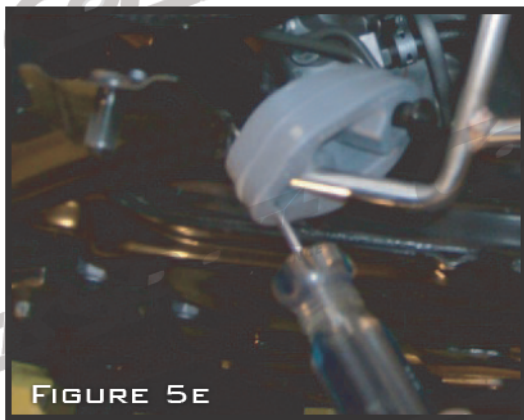

FIGURE 5E
C) THE REAR FLANGE OF THE RACEPIPE USES A SET OF 60MM (FOR 65MM RP) OR 70MM (FOR 80MM RP) M10 HEX BOLTS, LARGE WASHERS, FACTORY SPRINGS AS SHOWN IN **FIGURE 5E**. RUN THAT STACKUP OF FASTENERS THROUGH THE FACTORY EXHAUST FLANGE AND INTO THE THREADS ON THE CORKSPORT RACEPIPE. TIGHTEN THESE HAND TIGHT AS WELL.
E) INSTALL THE EXHAUST HANGER BUSHING (PREFERABLY WITHOUT INJURING YOURSELF). THE EASIEST WAY TO DO THIS IS TO RUN A SQUARE SHANK FLATHEAD SCREWDRIVER THROUGH THE HOLE IN THE BUSHING AND PRY THE BUSHING ON BY LEVERAGING OFF THE EXHAUST HANGER. SEE **FIGURE 5E**. MOST IMPORTANT THING TO REMEMBER IS THIS PROCESS TAKES MORE FINESSE THAN FORCE. ONCE INSTALLED, THE RACEPIPE SHOULD BE CENTERED BETWEEN THE BUSHINGS. SEE THE VIDEO ON THE PRODUCT PAGE OF OUR WEBSITE FOR A DEMONSTRATION.